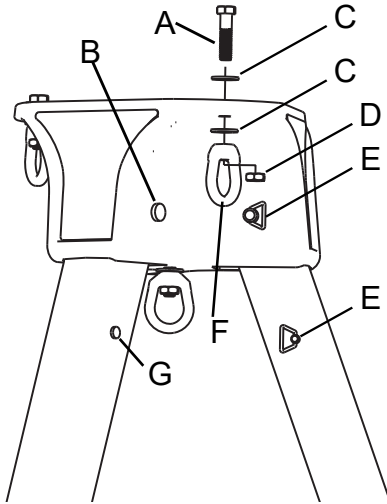

Fig. 9 Inspection locations
- (1) Inspect the Workman Tripod labels to verify that they are present and legible. Check the Formal Inspection Grid to be sure a Formal Inspection has been performed within the last six months. If the Grid does not indicate that a Formal Inspection has been performed within the last six months (by being punched), or if any labels are missing or illegible, remove the Workman Tripod from use and mark it as "UNUSABLE" until a Formal Inspection is performed by a competent person.
- (2) Inspect head assembly for corrosion, cracks, deformation, fractures, altered or missing elements, burns, and heat and chemical exposures. See Fig. 9 .
- (3) Inspect all metallic parts (i.e. head, legs, leg pins, attachment pins, feet) for deformation, fractures, cracks, corrosion, deep pitting, burrs, sharp edges, cuts, deep nicks, missing or loose parts, improper function, and evidence of excessive heat or chemical exposures.
- (4) Inspect all non-metallic parts (i.e. skid-resistant foot pads, labels, and leg base strap) for cut, broken, excessively worn, missing and loose parts. (Labels are to be additionally checked in accordance with Step 1 above.) Inspect for evidence of burns and excessive heat and chemical exposures.
- (5) Check the function of the Workman Tripod legs. Legs should move smoothly in the leg pockets and should seat firmly when moved to the fully open position. The lower legs should slide smoothly within the upper legs along their entire length. Workman Tripod feet should pivot easily and remain flat on the ground when the Workman Tripod is erected.
- (6) Inspect each component and subsystem of the complete system in accordance with the associated manufacturer's instructions.
- (7) Inspect for any sign of damage, inadequate maintenance of equipment, alteration, excessive wear, and any condition that calls to question the suitability of the equipment for its intended purpose.